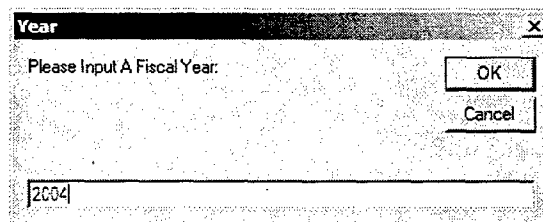

Figure 21. Update Historic SSN Eligibles Fiscal Year
2. Input a fiscal year for the analysis (e.g., 2004). See Figure 21.